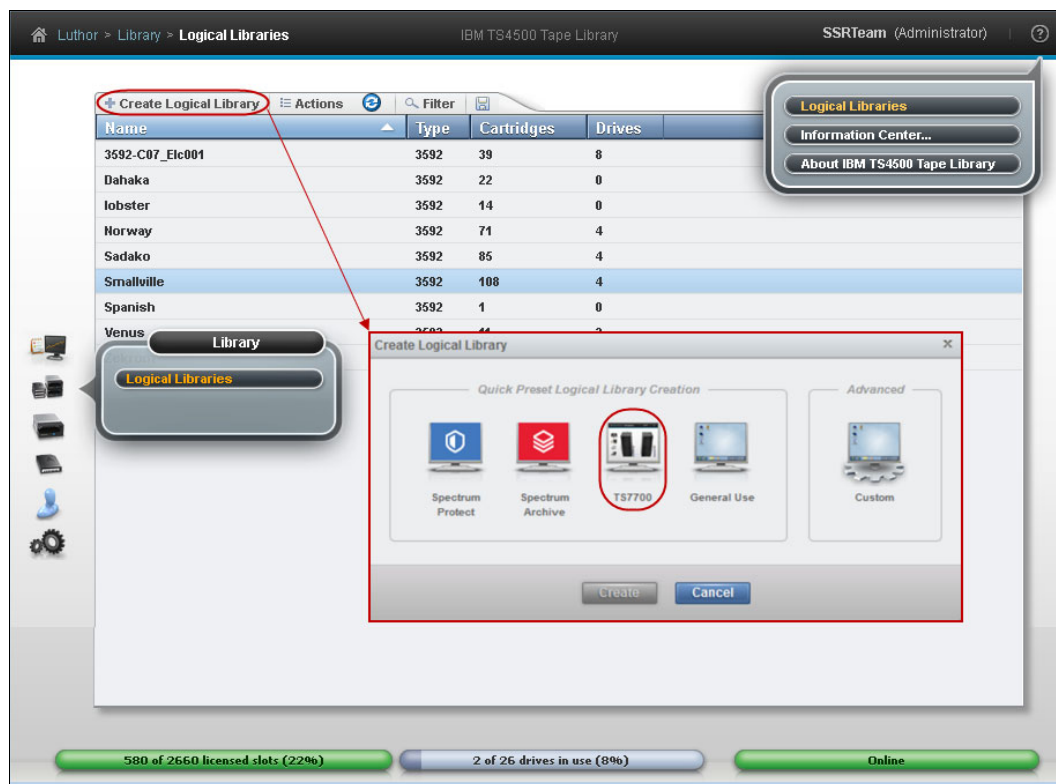

Figure 11-4 TS4500 create logical library page
1. From the initial page of the TS4500 GUI, select **Library Icon** and click **logical library** (see Figure 11-4).
2. Use the **Create Logical Library** option (see Figure 11-4) to complete the task.
Notice that the TS4500 GUI features selected presets, which help in setting up the new logical library. For the TS7700 library, use the TS7700 option that is highlighted in Figure 11-4. This option uses the 3592 tape drives that are not assigned to any existent logical library within the TS4500 Tape Library. Also, it selects up to four drives as control paths, and distributes them in two separate frames, when possible.